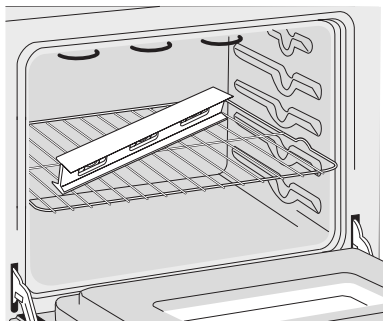

Fig 23
- Use a level to check your adjustments (Fig. 23).